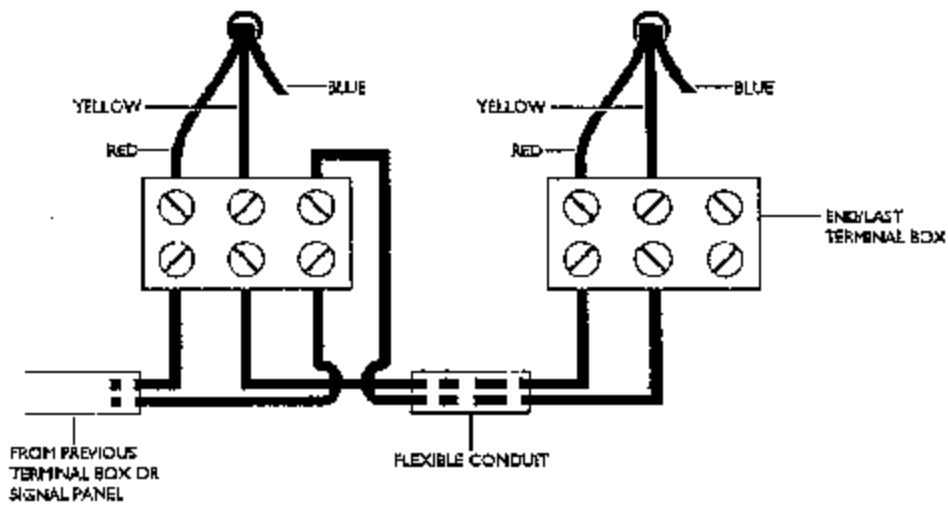

Figure 3-2 Electrical Installation - SERIES Two Wires
If the microswitch contacts are to be wired in the **NORMALLY CLOSED (N/C)** position, i.e. in **SERIES**, carry out the procedure in steps (i) through (iv) and see Figure 3-2.
- (ii) Thread the two core cable through the flexible conduit and connect to the terminal box as shown in Figure 3-2. Use an insulated crimp pin connector for each wire.